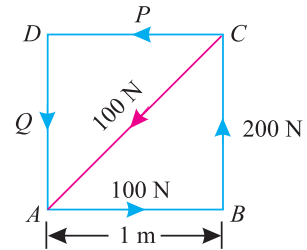

Fig. 4.13.
**Example 4.7.** A square ABCD has forces acting along its sides as shown in Fig. 4.13. Find the values of P and Q, if the system reduces to a couple. Also find magnitude of the couple, if the side of the square is 1 m.